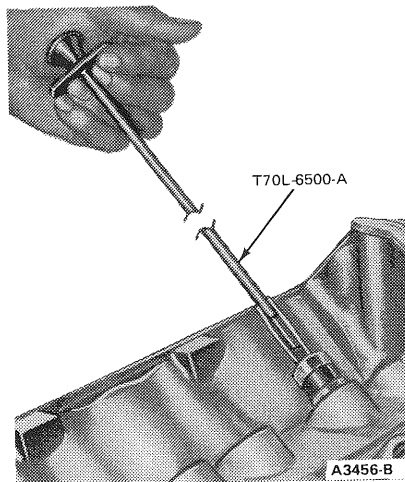

FIG. 46 Removing Valve Lifter
4. Using Tool T70L-6500-A shown in Figure 46, remove the valve lifters and place them in a rack so that they can be installed in their original bores.